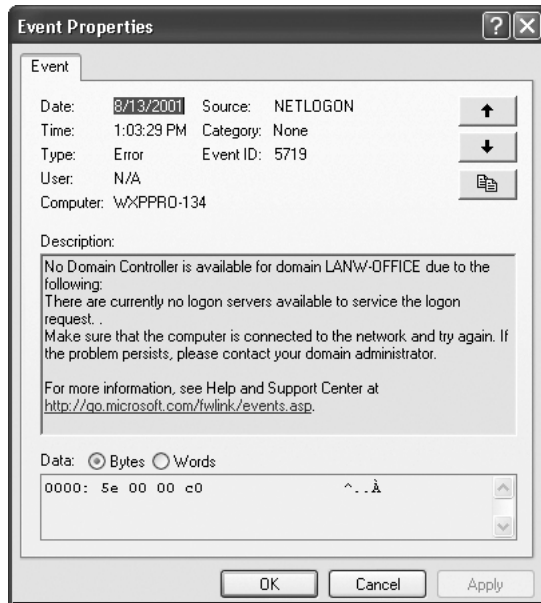

Figure 15-6 Event Properties dialog box
- *Dependency failures*—The failure of a service or driver owing to the failure of a foundation class, or of some other related service or driver, is called a dependency failure. An example is the failure of Server and Workstation services because the NIC fails to initialize properly (see Hands-on Project 15-8). Often Windows XP Professional will boot despite such errors, so check the Event Viewer (see Hands-on Project 15-1) for more details (see Figure 15-6 for an example of a warning reported because a common service proves to be unavailable). Most dependency errors usually appear immediately after OS or new software installation, or alteration in system configuration.